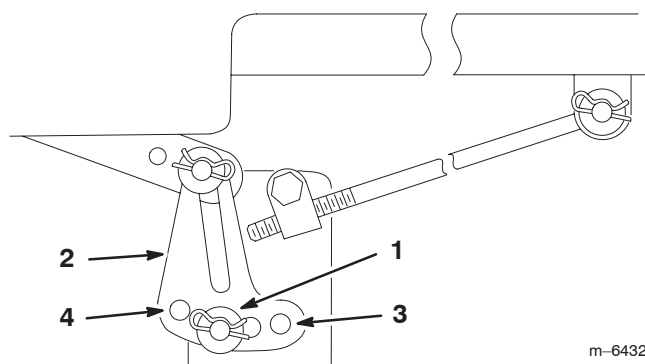

Figure 38
6. Remove the hairpin cotter and washer from the leveling bracket (Fig. 38).
7. To level the blade(s), reposition the leveling bracket(s) in a different hole and install the washer and hairpin cotter. (Fig. 38). A front hole lowers the blade height and a rear hole raises its height. Adjust both sides as required.